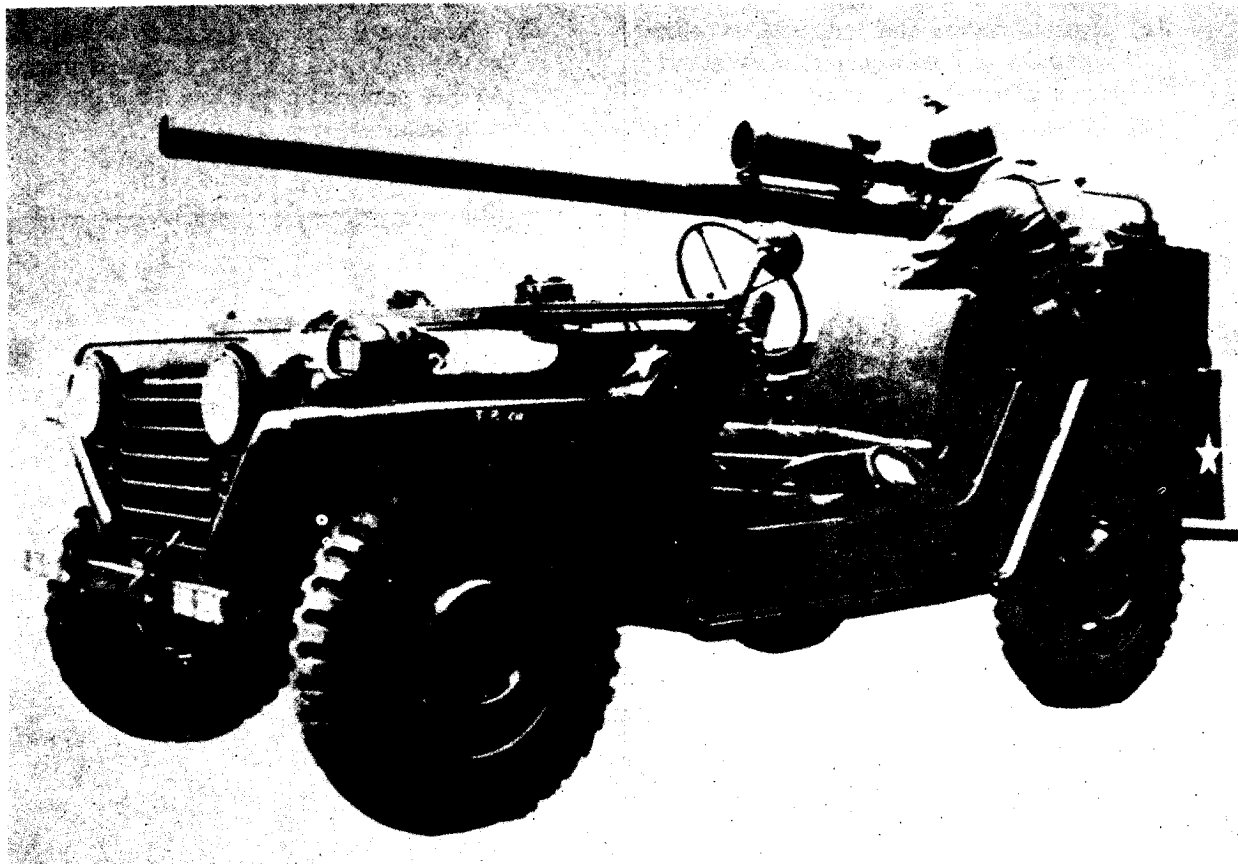

Figure 23. Gunner's position, 106-mm rifle.
- (3) Aiming for leads. The same methods and exercises used with the caliber .50 machinegun are used with 106-mm rifle, except that the lead dot is placed in the center of mass of the target instead of the leading edge (para 46).
b. Gunner's Position 106-MM Recoilless Rifle (Fig 23). The same position used with the M92D sight is used with the Crew-Served Weapon Night Vision Sight, except the head must be moved forward.